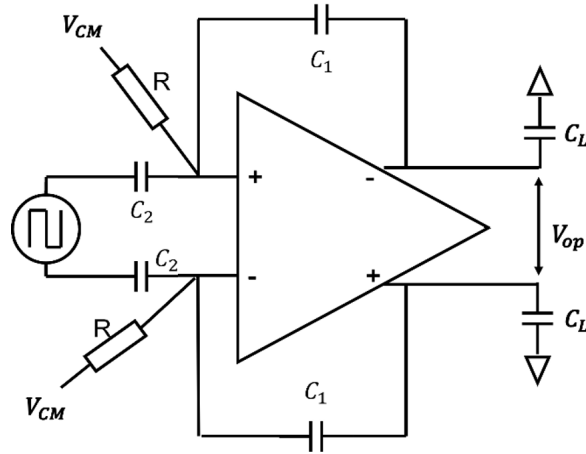

Figure 1: Settling Time setup
1. Connect the OTA as shown in fig. 1 with gain -1 and plot the fully differential output voltage. Choose appropriate value of C_1 and C_2 and R . consider $V_{CM} = 0.75V$. (To avoid loading effect, C_1 and C_2 should be less than $0.1 * C_L$.) [2 Marks]